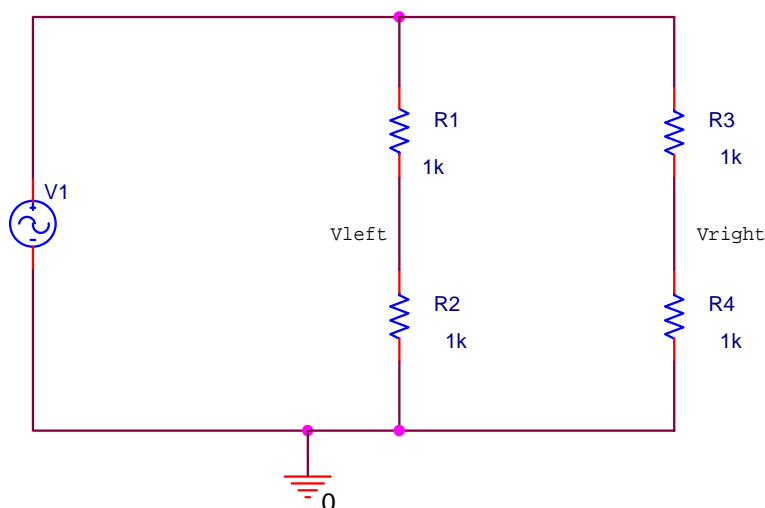

Figure A-1
*Bridges and Voltage Dividers:* In Experiment 1, we looked at one of the simplest useful circuits – the voltage divider. In many simple applications of electronics, we have only a small number of standard voltages in whatever circuits we are building. When we use a 9 volt battery as our source we have only one voltage level available, unless we use a voltage divider to get smaller voltages. We can also use a divider, as pictured in figure A-1, to measure resistance, if we have some device with an unknown resistance. For example, if we connect an unknown resistor in series with a known resistor, then the voltage across the unknown resistor can tell us the value of the resistance. An even better measurement can be done by combining two voltage dividers in a configuration like the one shown in the following figure. Note that if  $R_1 = R_2 = R_3 = R_4$ , the voltages at the two points marked  $V_{left}$  and  $V_{right}$  will be equal to half of the source voltage. Thus, their difference should be zero. Whenever the voltage difference across a bridge is zero, we say that the bridge is *balanced*.